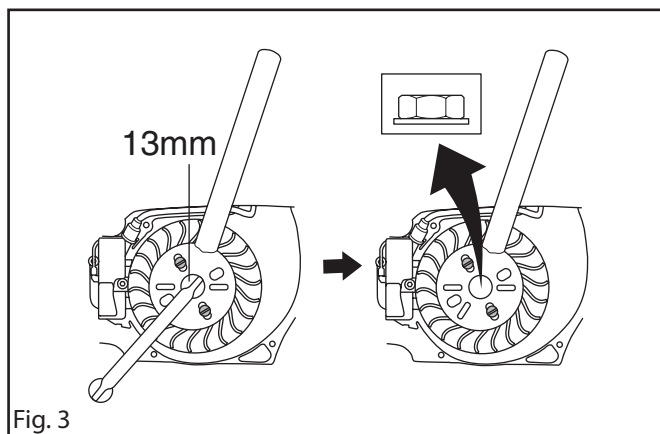
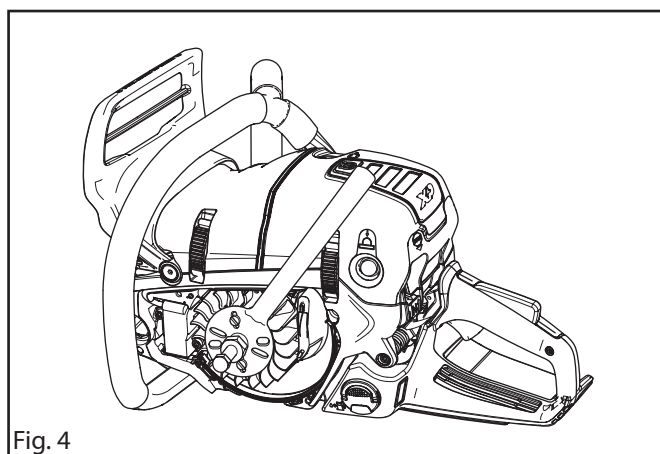

Fig. 3
Fig. 4
9. Fit the flywheel puller. Tighten down the two M5x25 screws, approximately 10 turns. Exercise care on saws with generators (XPG), which can be damaged if the screws are tightened too deep. See figure 3. Tighten the centre bolt, while preventing rotation with the holding tool until the flywheel releases. See figure 4.